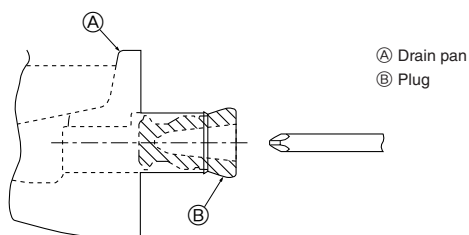

Fig. 5-1
- For left side tubing, be sure to insert the rubber plug into the right drain port. (Fig. 5-1)